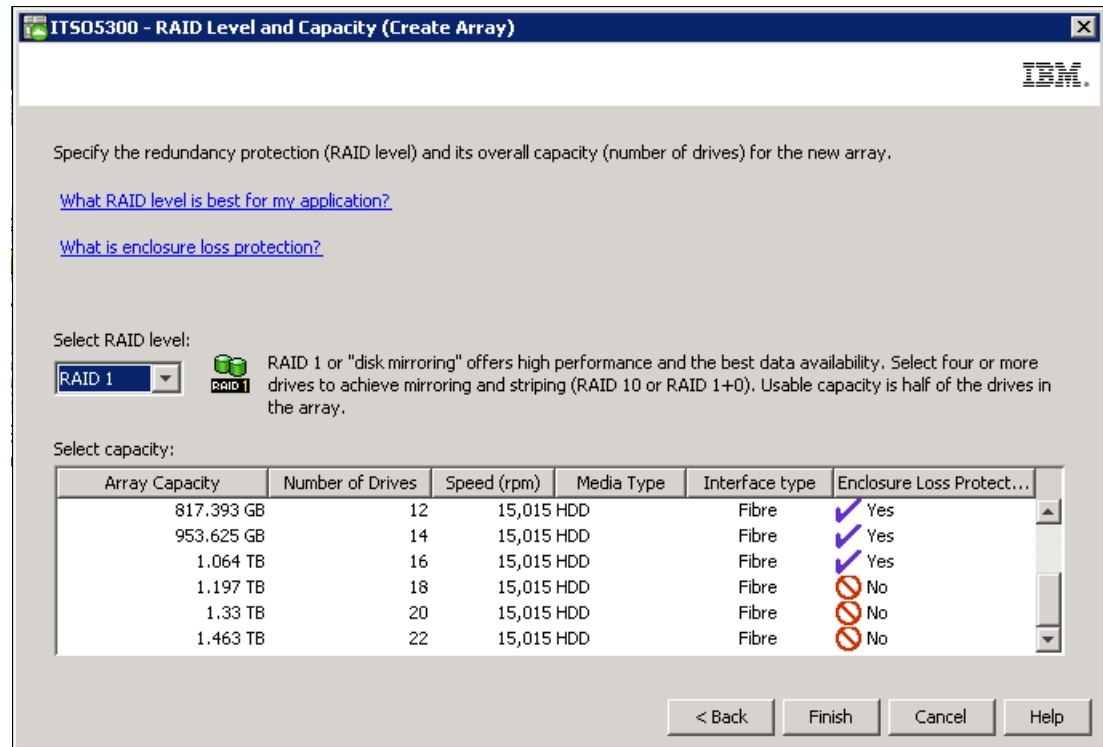

Figure 3-8 Enclosure loss protection with Automatic configuration
2. Specify the array details. You have two choices, automatic and manual. The default is the automatic method. In automatic mode, the RAID level is used to create a list of available array sizes. The Storage Manager software selects a combination of available drives, which it believes will provide you with the optimal configuration (Figure 3-8).